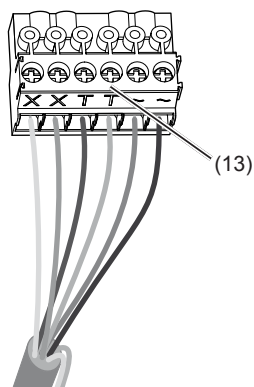

Figure 7: wired connection terminal block
- Pull off connection terminal block (13) from the video insert.
- Connect the 2-wire bus cable to the terminals **XX** of the connection terminal block (Figure 7).
- Connect door release to the terminals **TT** of the connection terminal block (figure 7 and 8) if required.
- For call push-button backlighting and camera heating connect 12 V~ lead from the power transformer to the terminals **~** of the connection terminal block (Figure 7).